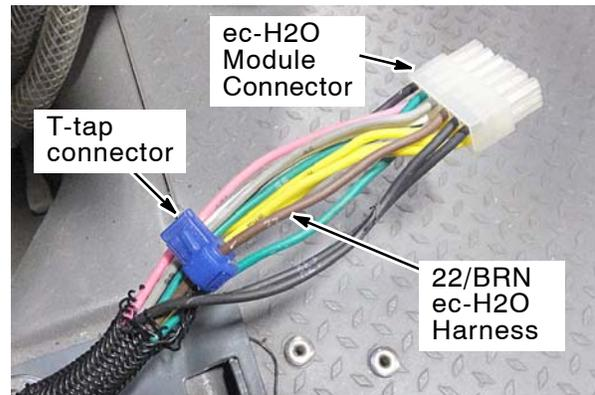

Fig. 17
Locate wire 22/BRN and add T-tap connector (25) to wire as shown. (Fig. 17)